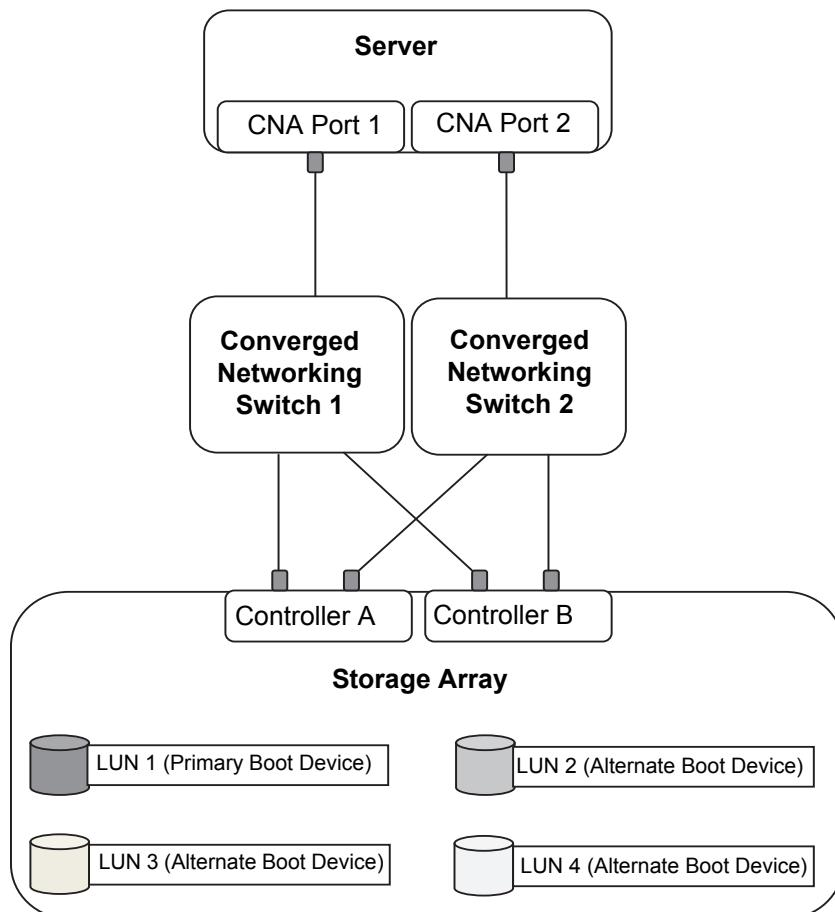

Figure 8-13. Multipath Topology
The multipath topology provides fault tolerance through redundant SAN components: two adapter ports, two converged networking switches, and access to the boot LUNs through two independent storage array controllers. Figure 8-13 shows the SAN components and their connections. The server has access to the primary and alternate boot LUNs through two independent paths. A single point of failure is unlikely with this configuration. You can enhance this configuration further by adding more adapter ports that connect to the converged networking switches. This added level of redundancy protects against adapter board failures.
- a. Connect the second adapter port, as shown in Figure 8-13.